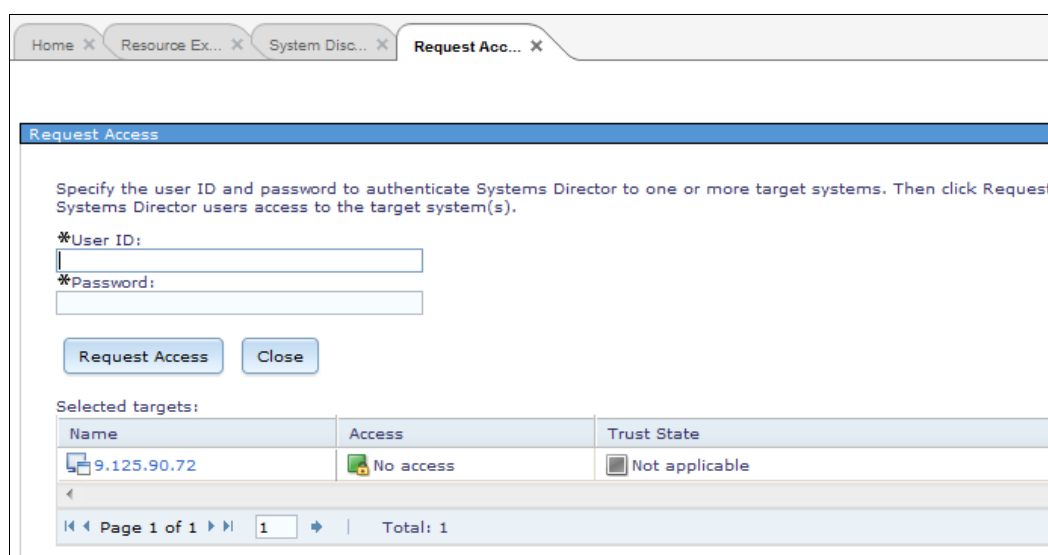

Figure 3-75 Request access to remote server
- When prompted, enter the User ID and Password to gain full access to the source and target server, as shown in Figure 3-75.